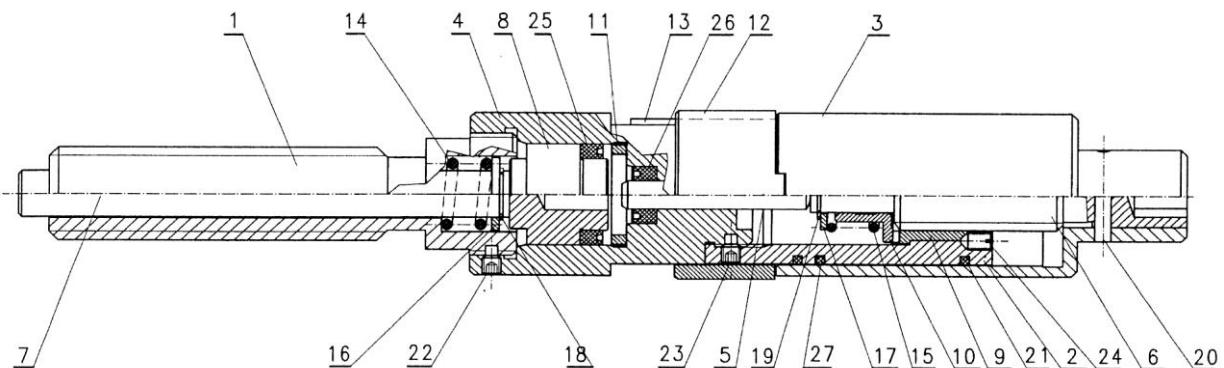

Fig. 4. Structure of the screw 3690-M.
6. STRUCTURE OF THE HYDRAULIC SCREW (fig.4)
7.1. PERIODICAL MAINTENANCE OF CLUTCH SCREW (pos. 6 fig. 4).
(table 3, fig. 4)